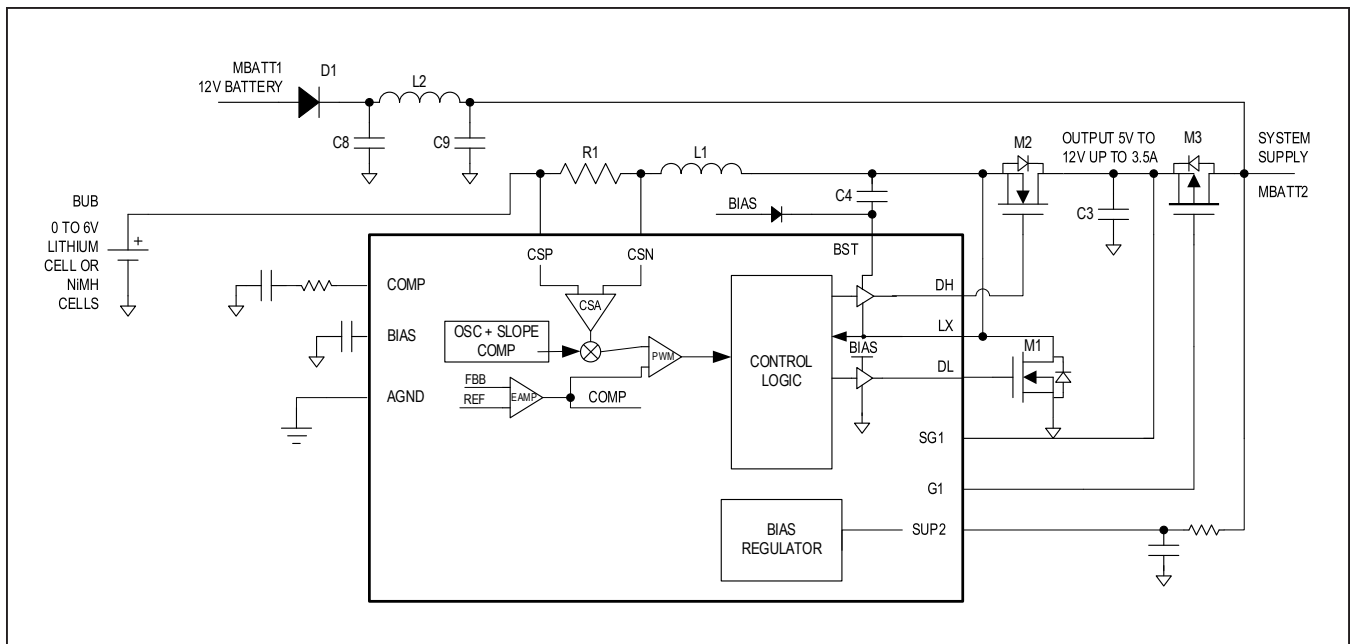

Figure 3. Boost Block Diagram
The ICs have low standby supply current, as mentioned in the Electrical Characteristics table, but still allow for 250µs (max) quick turn-on time once VSUP2 falls below BST\_OV\_F. I2C settings are held during the low-standby mode. In this mode, MOSFET M3 (see Figure 3) is OFF until the boost's overvoltage (OV) falling threshold triggers, and then it turns ON.